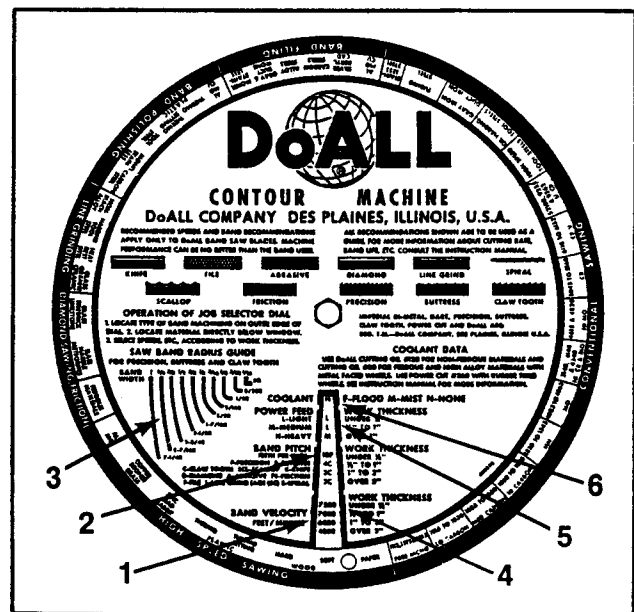

FIG. 8. JOB SELECTOR NUMBERS REFER TO STEPS AT LEFT.
- (1) Turn dial until material to be cut is directly below cover window as shown in Fig. 8.
- (2) Locate recommended pitch and blade type listed next to work thickness.